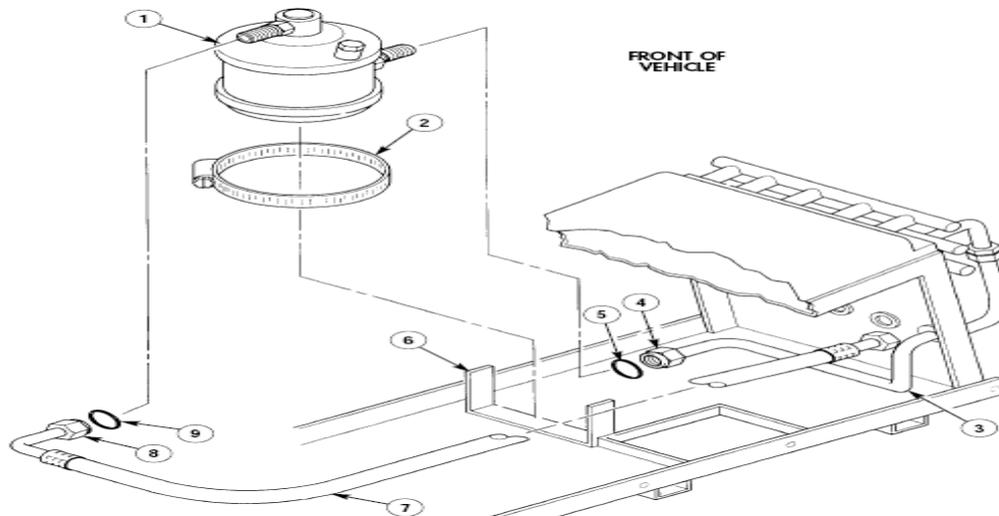

Figure 63
(24) Install A/C receiver/dryer, part number 04-00453, on bracket (6) with clamp (2) as shown in **Figure 63**. **Do not tighten clamp (2)**.
(25) Apply refrigerant oil to O-ring, part number 725721, and install O-ring (5) on supply line (3) as shown in **Figure 63**.
(26) Install supply line (3) on A/C receiver/dryer (1) and tighten nut (4) to 12 foot pounds (16 N•m) as shown in **Figure 63**.
(27) Apply refrigerant oil to O-ring, part number 725721, and install O-ring (9) on return line (7) as shown in **Figure 63**.
(28) Install return line (7), on A/C receiver/dryer (1) and tighten nut (8) to 12 foot pounds (16 N•m) as shown in **Figure 63**.
(29) Tighten clamp (2) as shown in **Figure 63**.